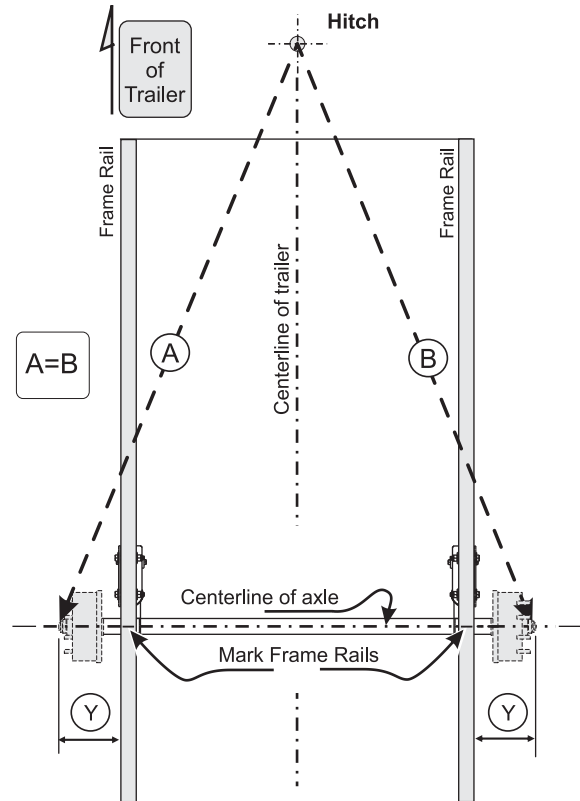

Fig. 1 Axle alignment (View from Top)
- 1) Mark frame rails at each side where centerline of axle should cross frame (fig.1).
- 5) To align axle, measure and compare distances "A" and "B" (fig. 1) and make sure that the error (difference between "A" and "B") is no more than 1/8". If the error is greater than 1/8" reposition frame brackets and recheck.